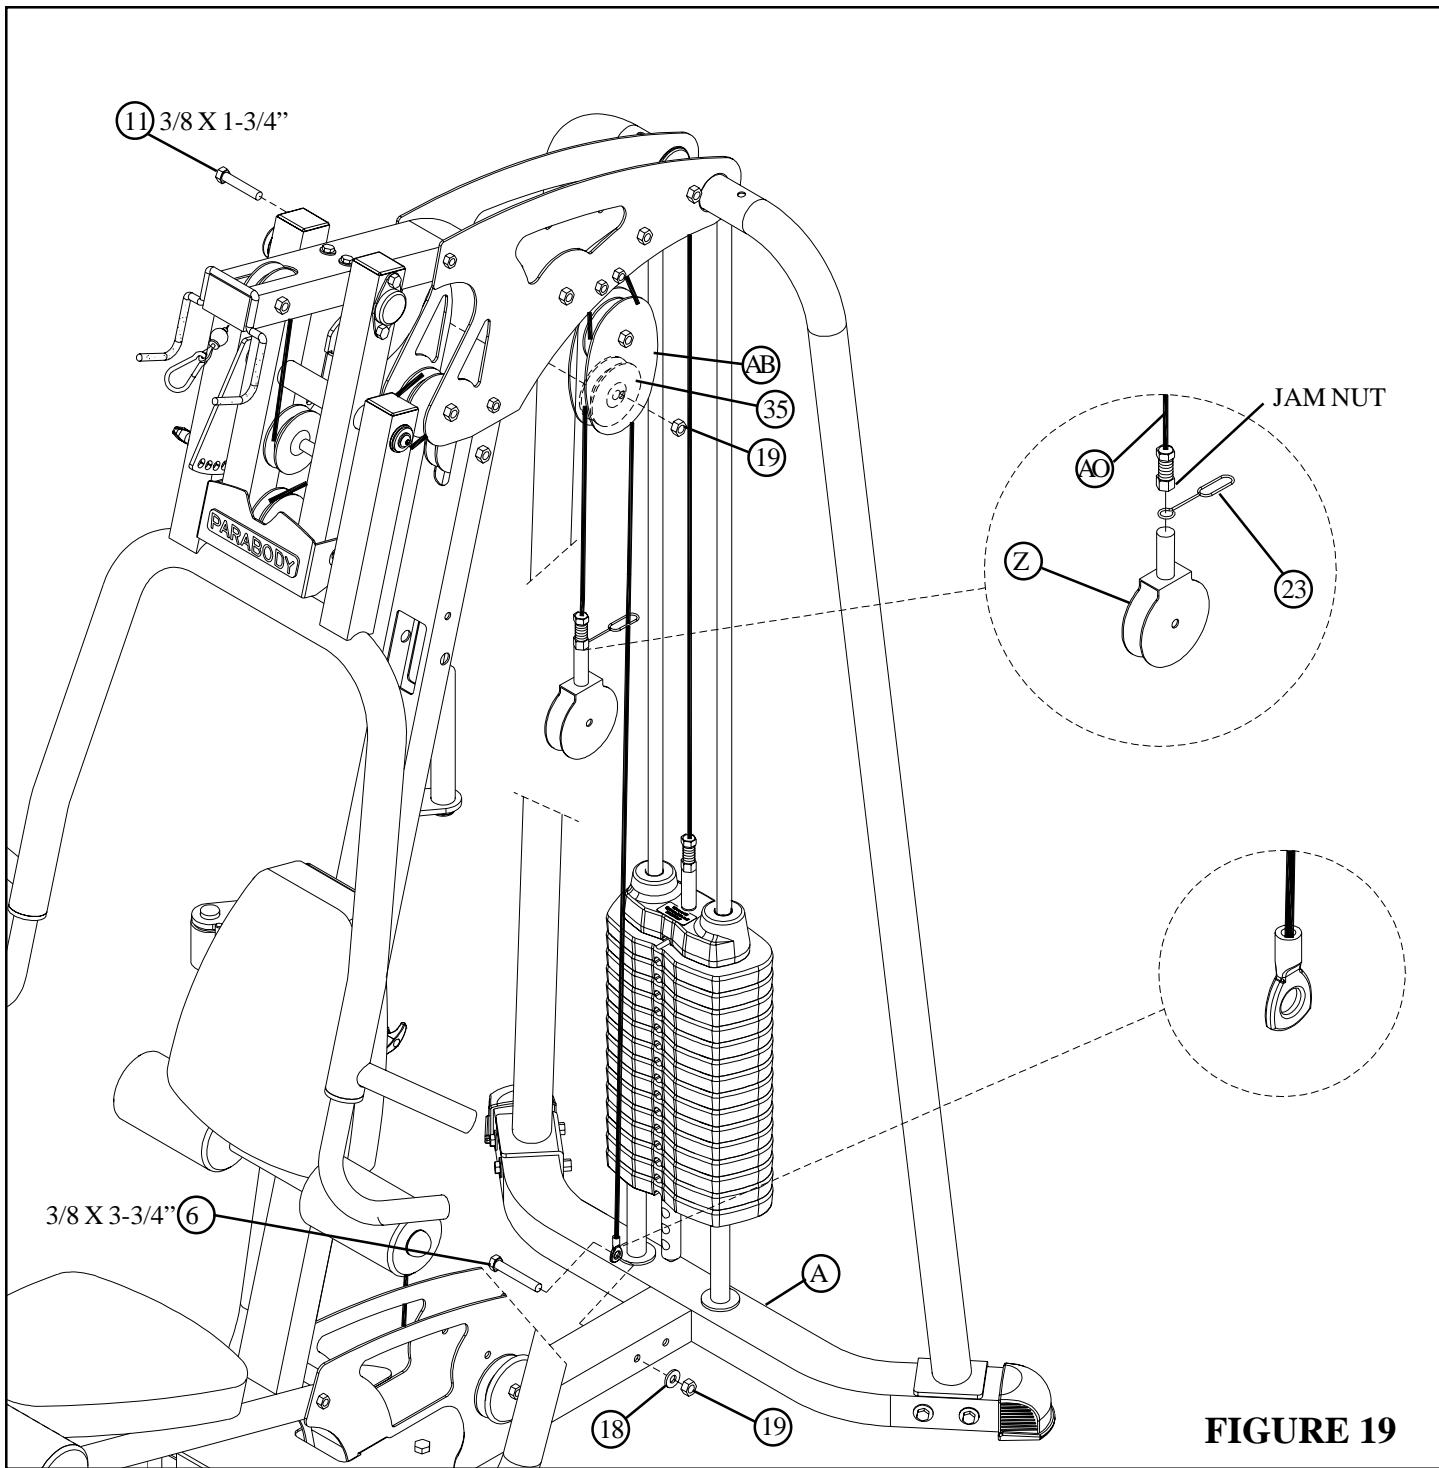

FIGURE 19
- Screw the threaded end of the GUIDE CABLE (AO) into the end of the FLOATING PULLEY BRACKET (Z). Secure the CABLE GUIDE (23) in place with the JAM NUT on the GUIDE CABLE. See FIGURE 19.
- Route the GUIDE CABLE (AO) around one 3-1/2" PULLEY (35) and assemble the PULLEY to the FLOATING PULLEY PLATES (AB) using one 3/8 X 1-3/4" BOLT (11) and one 3/8" LOCK NUT (19). See FIGURE 19. **(NOTE: Make sure the cable runs in the grooves of the pulleys.)**
- Route the hook end of the GUIDE CABLE (AO) thru the CABLE GUIDE (23) then **SECURELY** assemble the hook end of the GUIDE CABLE (AO) to the BASE using one 3/8 X 3-3/4" BOLT (6), one 3/8" WASHER (18)and one 3/8" LOCK NUT (19) as shown in FIGURE 19.